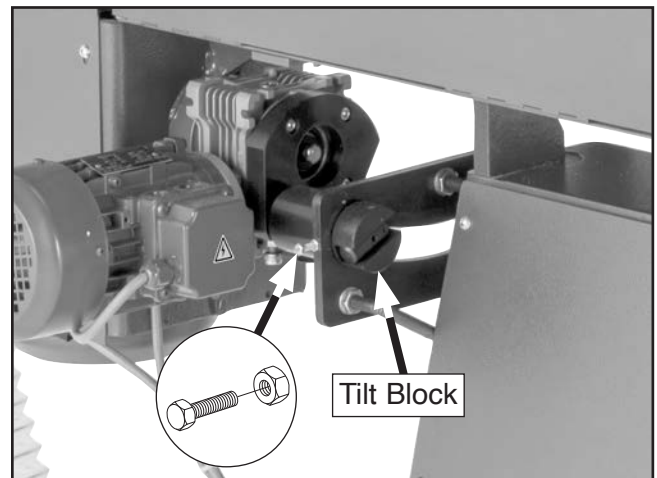

Figure 65. Location of 0° stop bolt and jam nut.
6. Loosen jam nut on 0° stop bolt shown in **Figure 65**, and adjust 0° stop bolt until platen is 90° to table when bolt contacts tilt block.